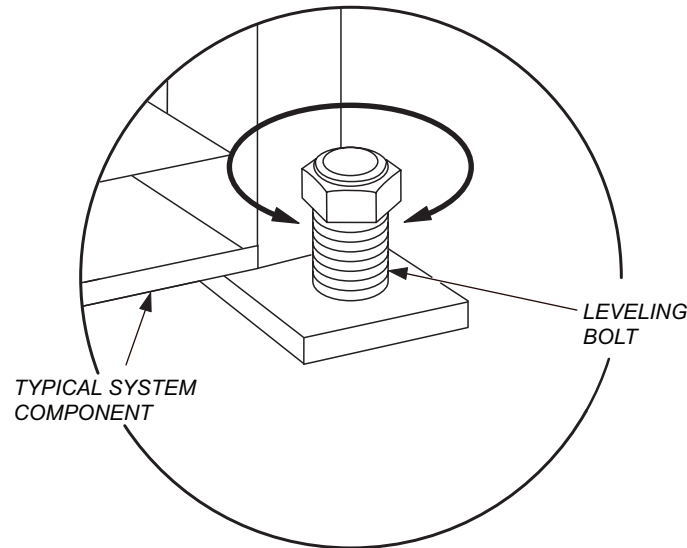

Figure 8 Typical Levelling Bolt
1. If required, level a system component by adjusting levelling bolts (see Figure 8).